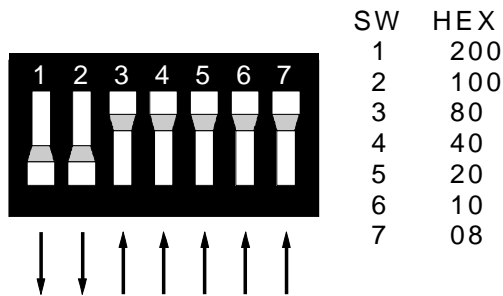

Figure 3-1. Base Address Switches (300h Shown)
Base address is the most important user-selectable item of the PC104-DI48. The base address is the starting location that software reads from when communicating with the PC104-DI48. DIP switches (Figures 3-1 and 4-2) are used to set the base address (0). Each switch position corresponds to one of the PC bus address lines. By placing the switch down, the address decode logic adds that value to the base address.
A base address is constructed by calculating the HEX or decimal number which will be the address the board will respond to. For example, in Figure 3-1, switches 1 and 2 are down, all others are up.